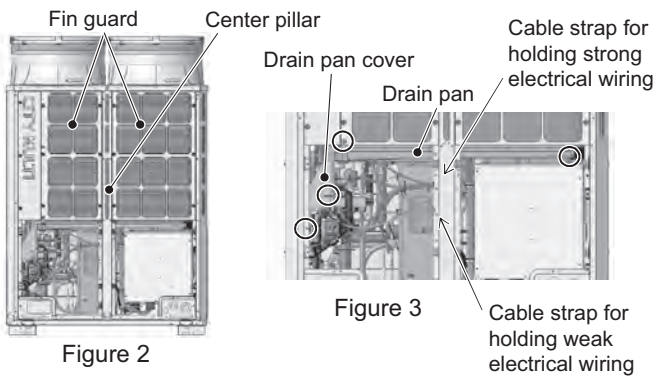

Figure 2
- (1) Remove the two front panels from the unit by unscrewing the 14 screws. (See Figure 2.)
- (2) Remove the fin guard by unscrewing the 12 screws. (See Figure 2.)
- (4) Remove the center pillar by unscrewing the 5 screws. (See Figure 2.)